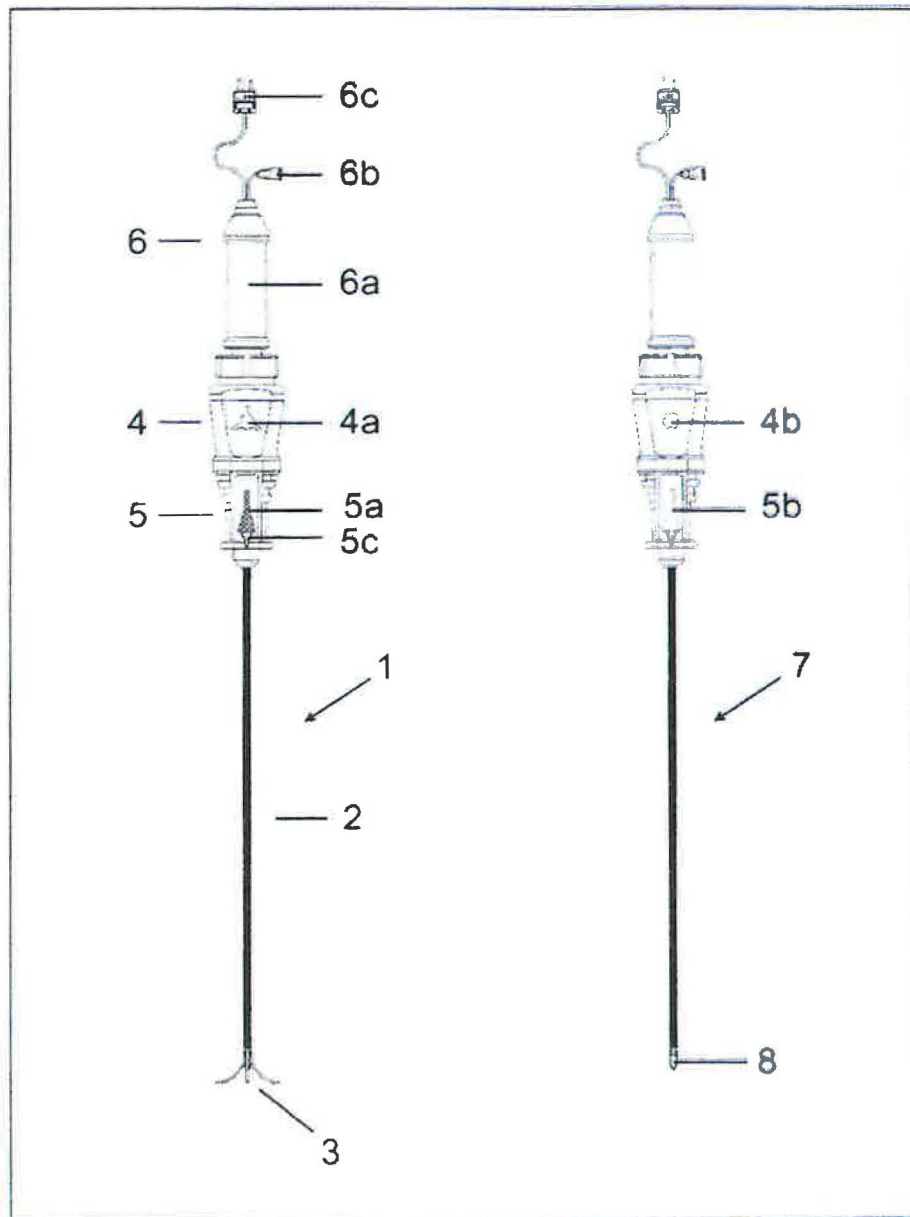

Figure 1. OWL Single Use Trident™ Hybrid RF Insulated Cannula model: DTRH
The Trident™ Hybrid RF Cannula Model DTRH, shown in Figure 1, differs from the standard Trident™ RF Insulated Cannula Model DTR in the following two important respects:
- The Trident™ Hybrid RF Insulated Cannula has an RF Probe/Temperature Sensor permanently installed inside it, with the probe tip containing the temperature sensor positioned within the cannula bevel for reliable temperature monitoring. The Trident™ Hybrid RF Insulated Cannula has a Fluid Injection Port, Fig. 1, (6b). This eliminates the need to remove a stylet (no stylet is needed at all, see Fig. 1) for access to fluid injection and possibly causing inadvertent dislodging of cannula tip position.